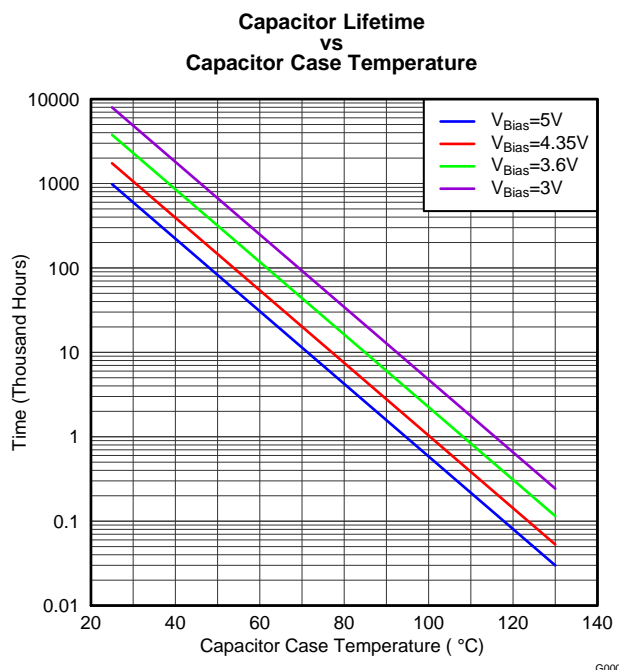

Figure 32.
Failures caused by systematic degradation can be described by the Arrhenius model. The most critical parameter (IR) is the Insulation Resistance (i.e. leakage current). The drop of IR below a lower limit (e.g. 1 MΩ) is used as the failure criterion, see Figure 32. Figure 33 (B1 life) defines the capacitor lifetime based on a failure rate reaching 1%. It should be noted that the wear-out mechanisms occurring in the MLCC capacitors are not reversible but cumulative over time.